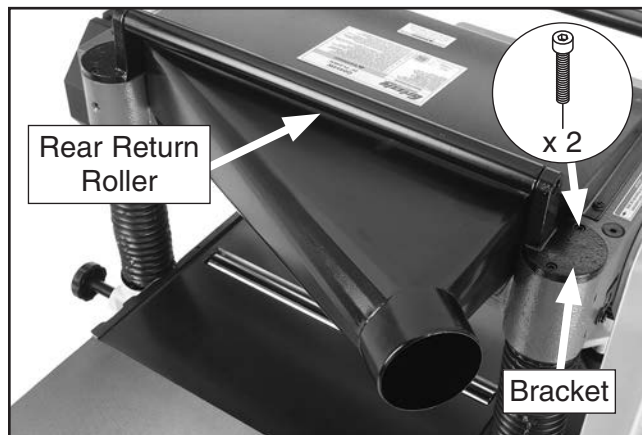

Figure 20. Return roller bar installed.
9. **G0453W & G0453ZW Only:** Remove two pre-installed cap screws and rear return roller bracket shown in **Figure 20**. Mount rear return roller between brackets, then re-install cap screws.